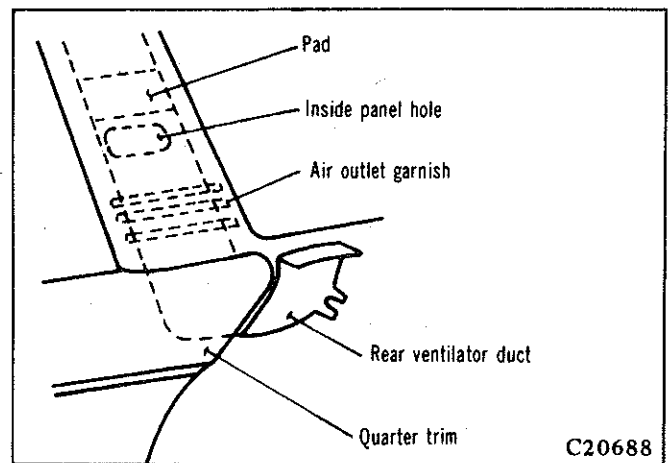

Fig. 9—Installing the duct and panel
(1) Attach the pawl of the ventilator duct to the quarter trim and after confirming that the duct is properly installed, tighten the screw clamping the duct into place (refer Fig. 9).